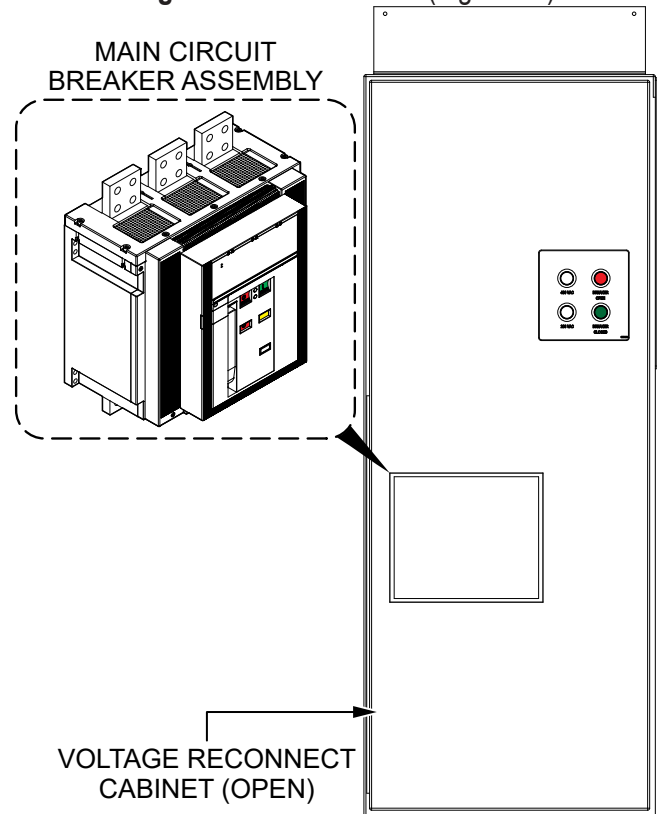

Figure 13. Voltage Reconnect Cabinet
- To access the **main circuit breaker assembly**, open the **voltage reconnect cabinet** (Figure 13).